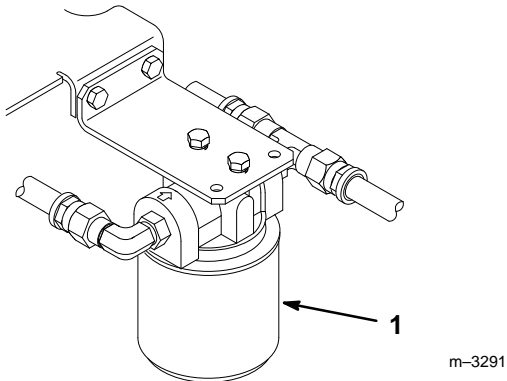

Figure 29
3. Place drain pan under filter, remove the old filter and wipe the filter adapter gasket surface clean (Fig. 29).